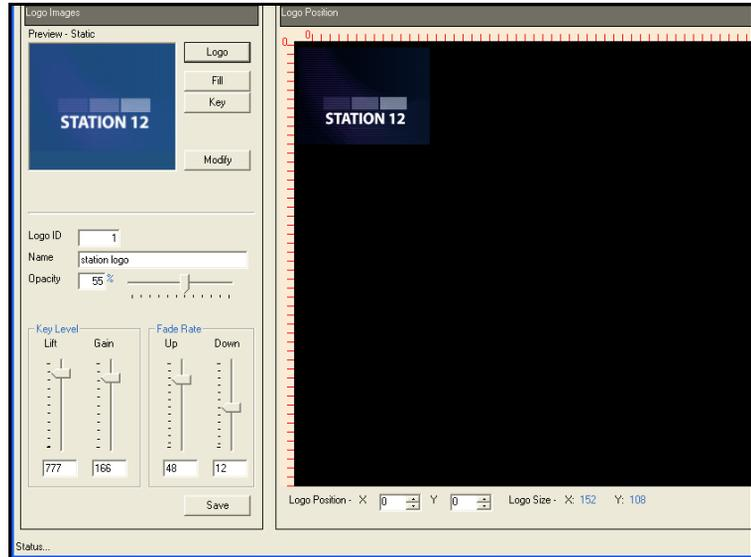

Figure 8-8. Opening a Logo
3. Click the **Open** button. The .mg2 logo displays in the LogoCreator workspace (Figure 8-8).